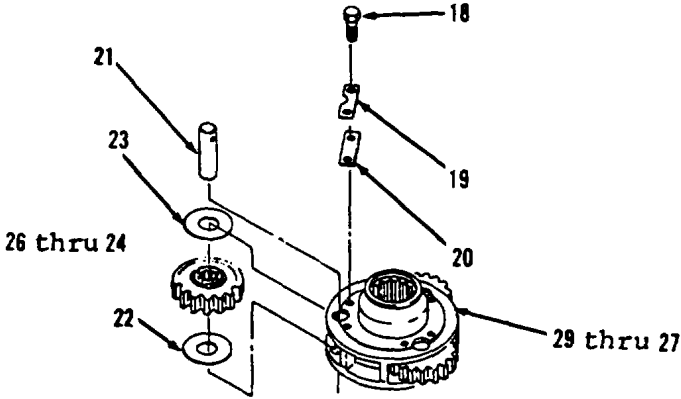

Figure 5-134.
- 11. Turn over items 29 thru 27 as an assembly and install items 26 thru 24 as an assembly, three washers (23 and 22), shafts (21), retainers (20), locks (19) and six bolts (18) in planet carrier (29, Figure 5-134).